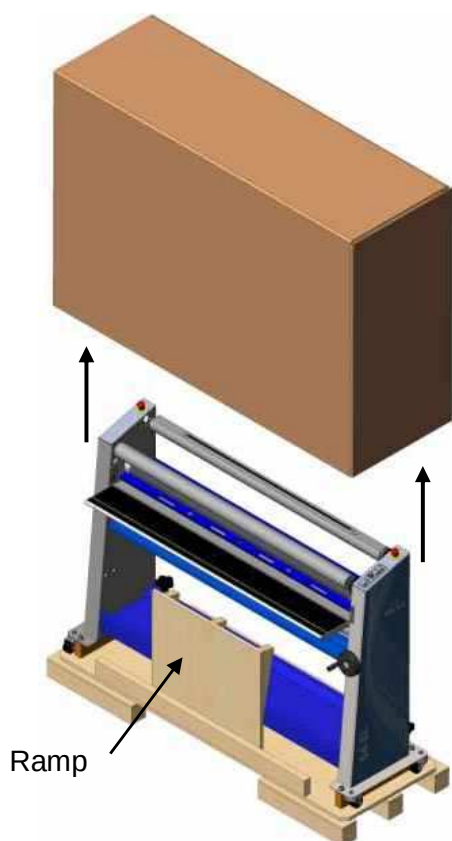

Figure 2
2. With two people, carefully lift the box straight up over the machine (See figure 2).